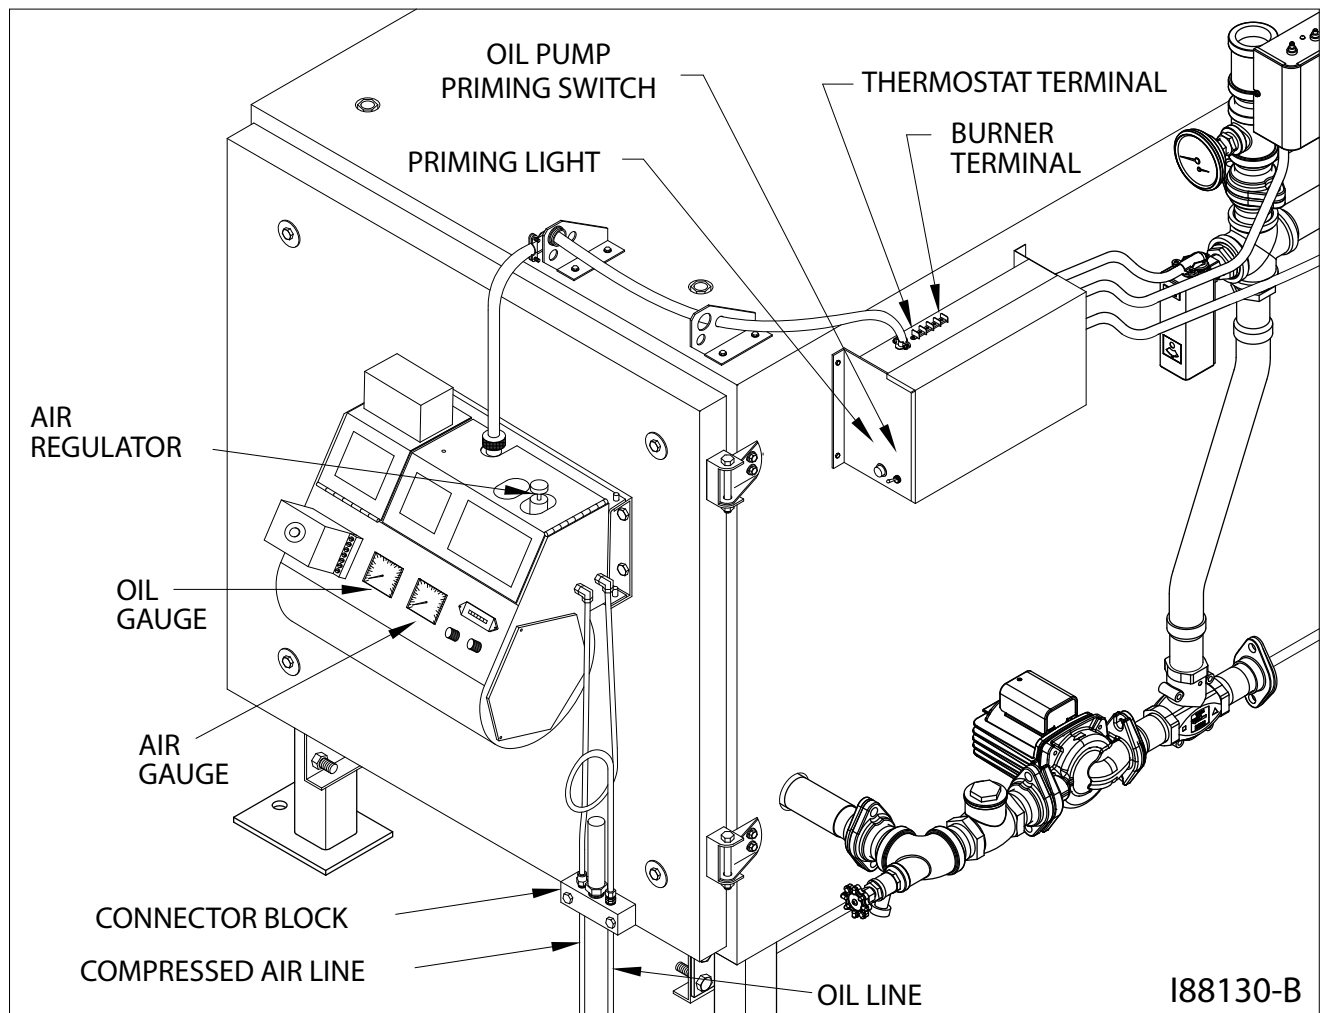

Figure 5B - Detail of Burner Connections/Components
- a. Refer to Figure 5B to locate the priming switch.